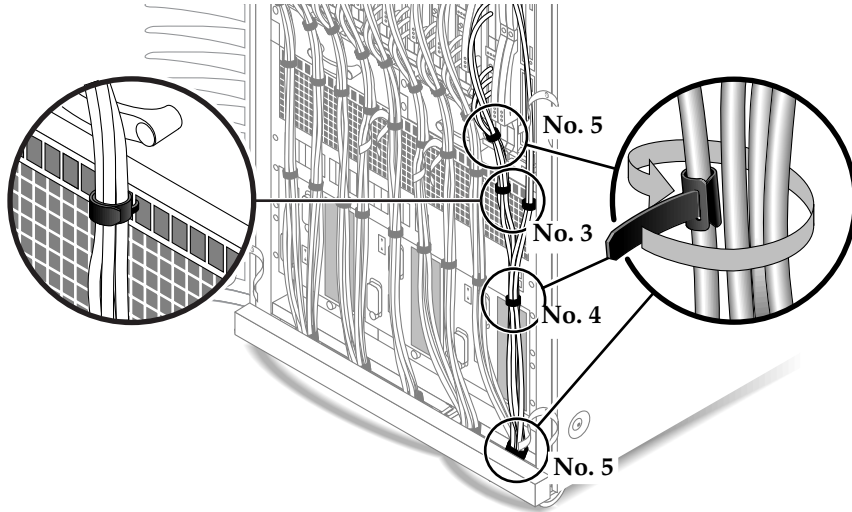

FIGURE 1-2 Black Permanent Straps
4. **Just below the I/O board attach a black cable strap (No. 5) to one of the cables and wrap the strap around the remaining cables in the I/O board set to bind all of the cables together (FIGURE 1-2).**
5. **Vertically secure each of the bundled cable sets and the SC cables to the black cable hanger straps (FIGURE 1-2).**
6. **At the top of the power supplies, secure a black lite cable strap (No. 4) to one of the cables and wrap the strap around the remaining cables in the cable set to bind all of the cables together (FIGURE 1-2).**
7. **At the base of the system, secure a black cable strap (No. 5) to one of the cables and wrap the strap around the cables in two cable sets to bind the two sets together (FIGURE 1-2).**
9. **Secure a black cable strap (No. 5) to one of the cable bundles below the tile floor and wrap the strap around the three bundles to bind them together (FIGURE 1-2).**